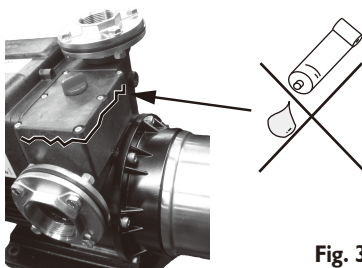

Fig. 3
7. Regular maintenance requires to open the prime cover in order to access the check valve. DO NOT apply any bonded material (such as silicon, glue etc) to seal the chamber cover (See Fig 3).